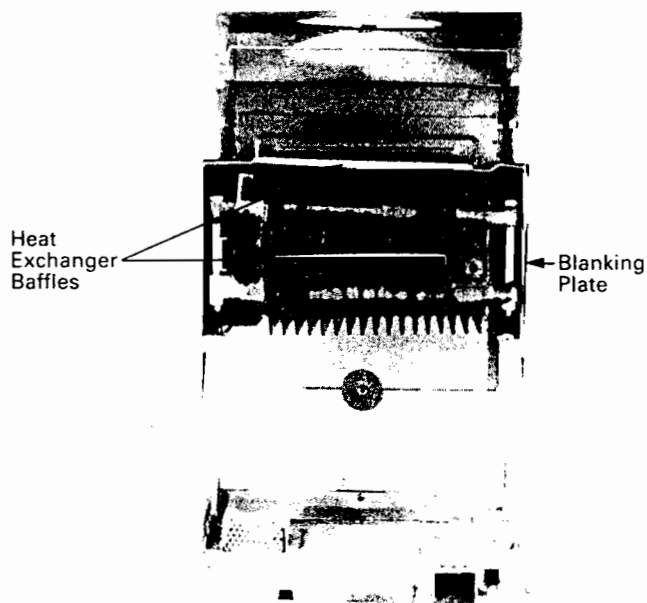

Fig. 3. Boiler Connections
Boiler Connections (Fig. 3)
4. Slide out the baffles from between and above the heat exchanger castings and slide out the blanking plate (Fig. 3).